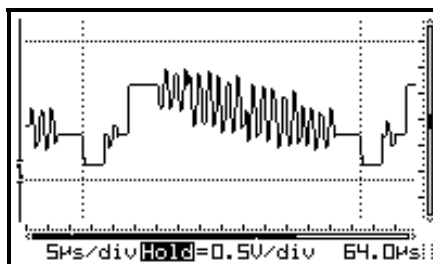

Fig 13
- **Markers:** Moveable markers in order to measure the signal (Fig. 13).